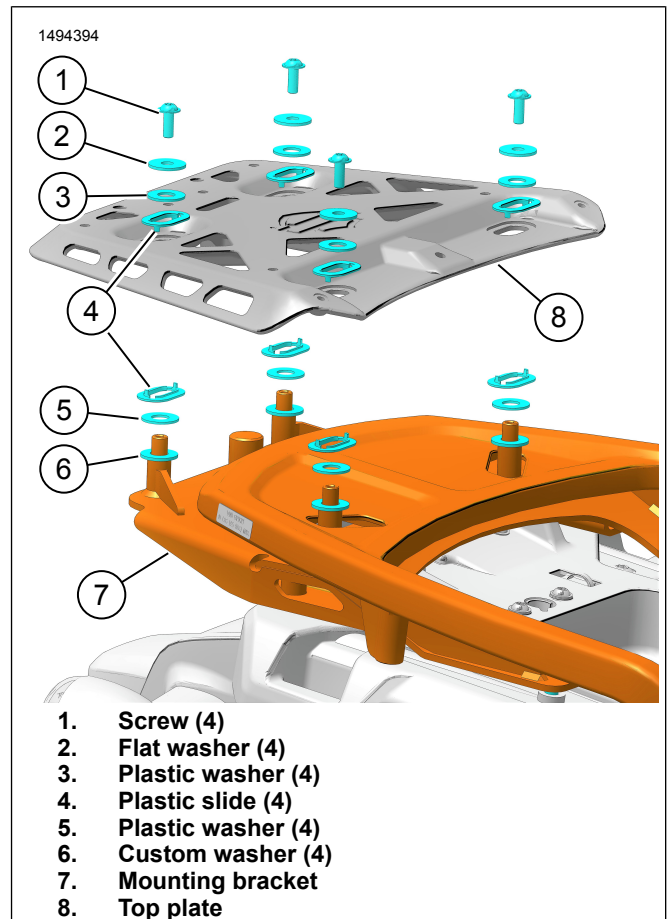
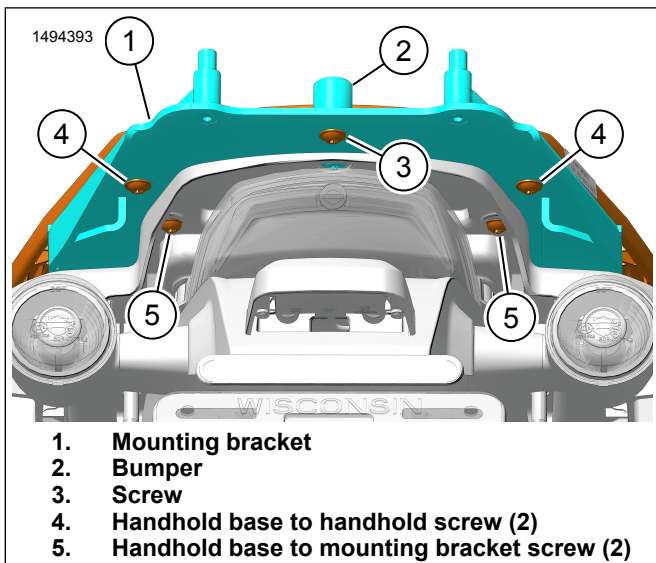
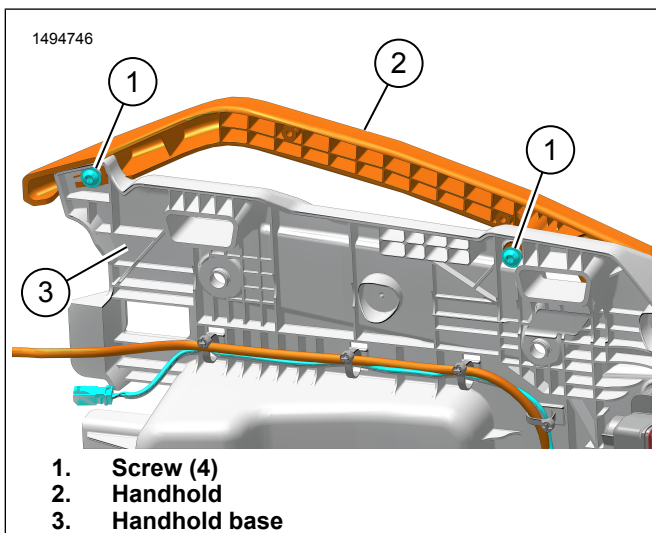

Figure 4. Top Plate Hardware
Figure 5. Rear Mounting Screws
Figure 6. Handhold
3. See Figure 4. Remove four screws (1), flat washers (2) and plastic washers (3).
4. Remove top plate (8).
5. See Figure 5. Remove screws (4).
6. See Figure 6. Remove screws (1).
7. Remove OE passenger handhold (2).
8. See Figure 6. Install **new** passenger handhold.
- a. Loosely install screws (1) on both sides.
- b. See Figure 5. Install handhold base to handhold screws (4).
9. See Figure 4. Install top plate.
- a. Install custom washers (6), plastic washers (5) and plastic slides (4) onto mounting bracket (7).
- b. Install top plate (8).